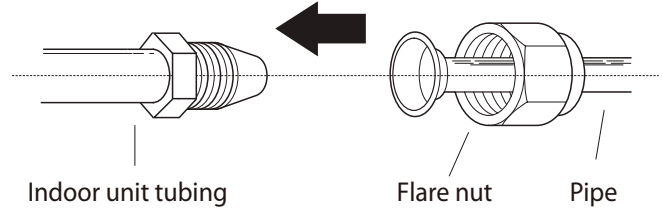

Fig. 5.7
- Align the center of the two pipes that you will connect. See Fig. 5.7